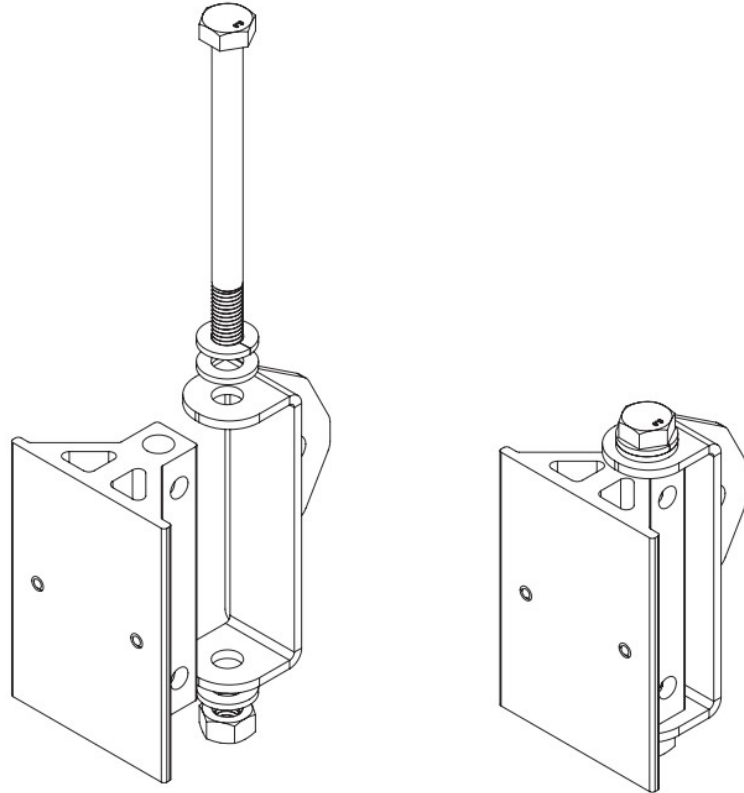

Fig. 3 (Sliding Mount Block shown not attached to speaker for clarity)
- A. Position the short speaker bracket over the lower sliding mount block as shown in Fig. 3.